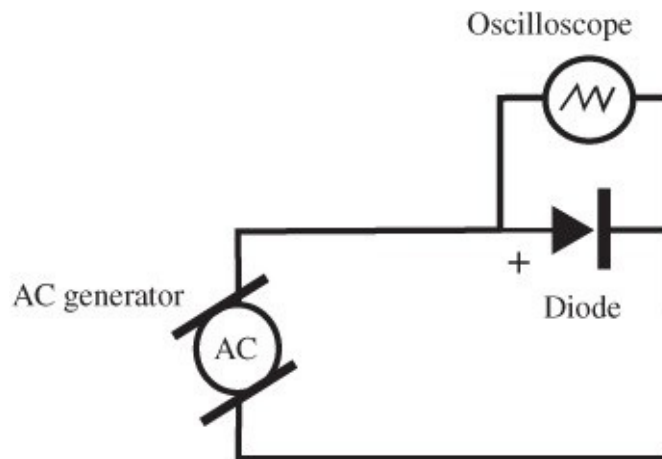

Figure 115-1
4. Adjust the amplitude, time sweep, and, if necessary, trigger setting to display the AC signal on the oscilloscope screen. Figure 115-1 shows how the electrical components are connected to make this measurement. (The diode used in the next set of steps is shown connected.)